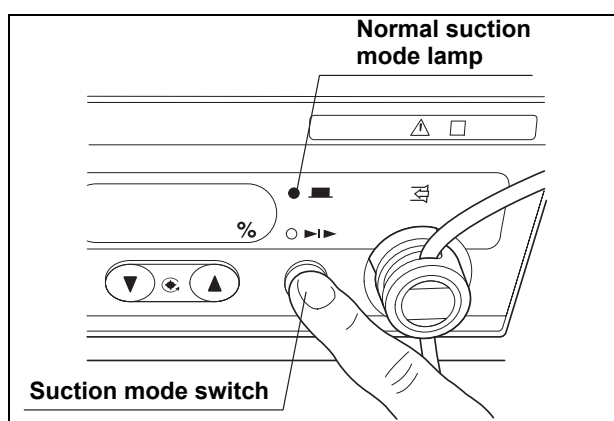

Figure 5.3
1. Press the suction mode switch so that the normal suction mode lamp lights up (see Figure 5.3).